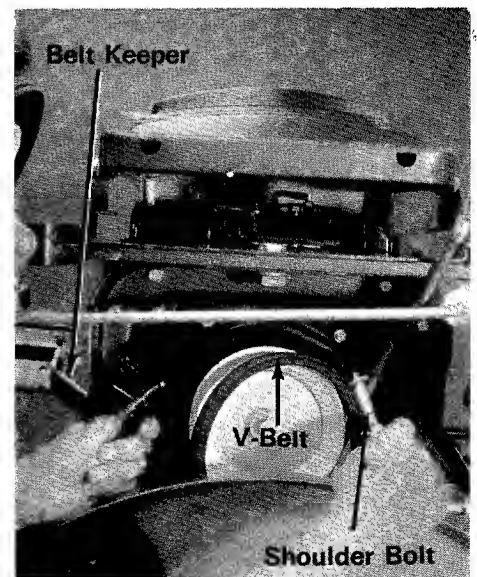

Figure 20
- 2 Remove the Belt Keeper and Shoulder Bolt on the engine pulley. (See figure 20.)
- 7 Remove the engine belt guard by removing the two front engine bolts. (See figures 20 and 21.)